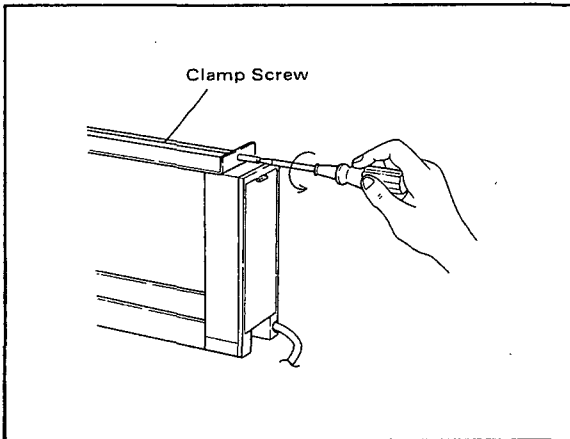
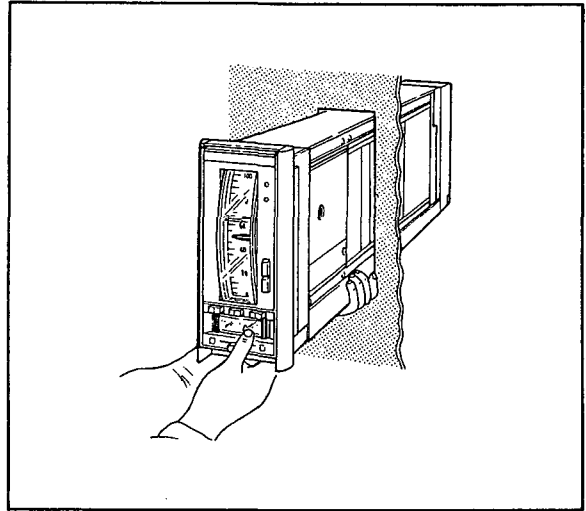

Figure 5-1. Removing the Clamp Screw - (1).
Figure 5-3. Inserting an Instrument into a Panel (1).
(1) Single Instrument Installation.
- a. Loosen the mounting clamp screw. See Figure 5-1.
- c. Insert the housing into the panel cutout. See Figure 5-3.
(2) Side-by-side Instrument Installation.